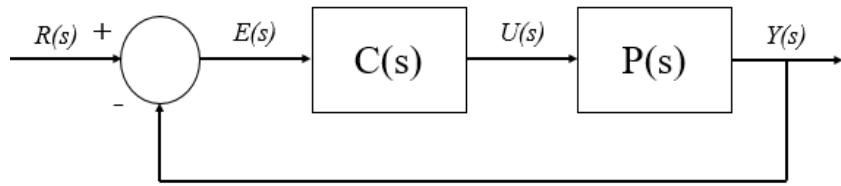

Figure 4: Unity feedback control
Figure 4 shows the plant  $P(s)$  in unity feedback control loop with a controller  $C(s)$ . Here,  $E(s)$  is the error signal,  $U(s)$  is the control signal,  $R(s)$  is the input and  $Y(s)$  the output. The amplitude of this control signal represents the *control effort*.
5. Obtain the transfer function of the closed loop plant (see Figure 4) with a PI controller given below.